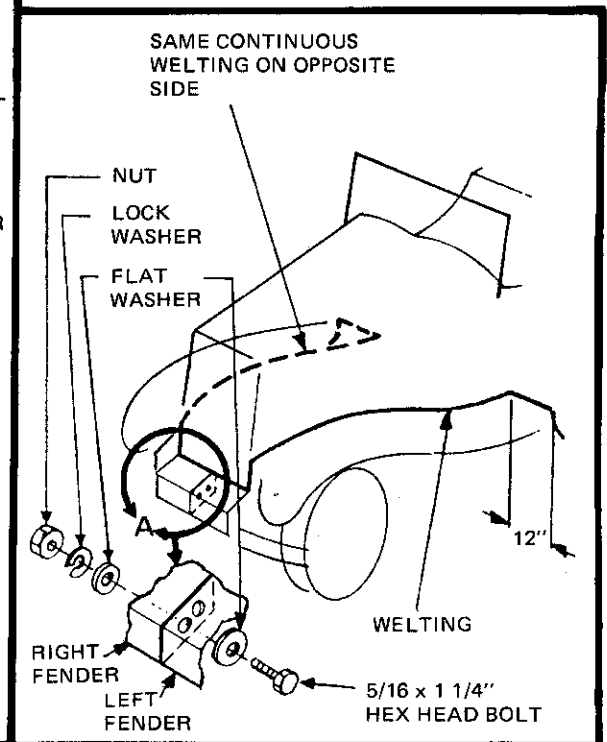

Figure 46
FINAL ATTACHMENT - FRONT FENDERS AND WELTING (Figure 46)
- Welting is installed between the fenders and the body. It must be notched to fit around bolts and to negotiate curves. Starting at the rear of the front fender, leave 12" of welting exposed. (This will go between the fender and running board.) Run the welting up along the front fender. Continue around the grille shell and back along the other fender. Leave 12" of welting exposed and cut. Tighten down all fender bolts. (Contact cement can be used in problem areas to keep welting in place.) (Figure 46)